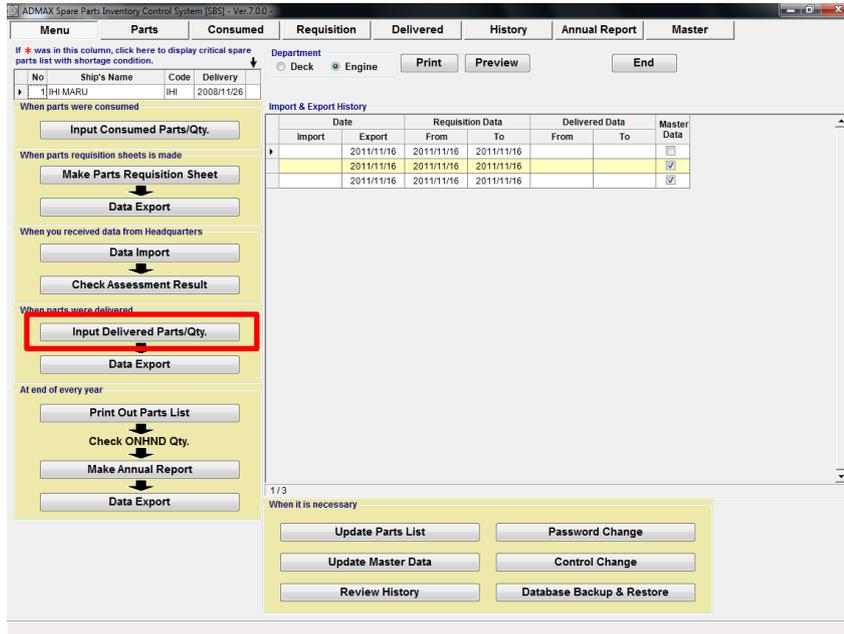

Fig 8.1 Menu
1. On the “Menu Screen”(Fig.8-1), select [Input Delivered Parts / Qty].